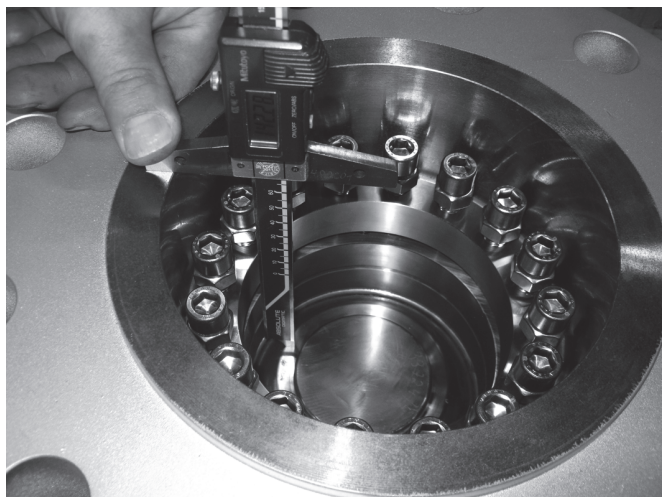

Fig. 12 Checking the closed position by means of depth measurement
- Fix the actuator with the appropriate screws and lock them cross-wise. Finally, check the closed position of the valve by means of multiple depth measurements. The detected data is not allowed to deviate more than 0.3mm (see Figure 12).